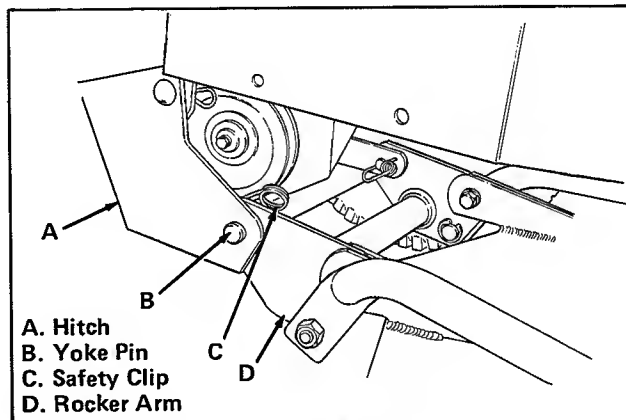

Figure 6. Attach Mower to Hitch
10. Start tractor engine. Use rear lift control on tractor to raise mower so holes in rocker arm (item D, figure 6) are in line with holes in hitch (item A). Then use two yoke pins (item B) and safety clips (item C) to attach rocker arm to hitch.
4. Start tractor engine. Use rear lift control to raise mower to a point where yoke pins (item B, figure 6) are loose. Then stop engine and remove ignition key.